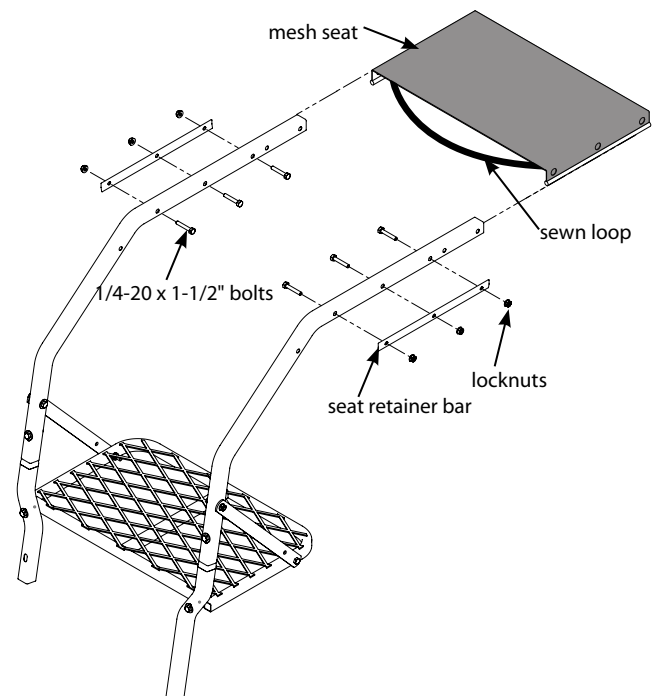
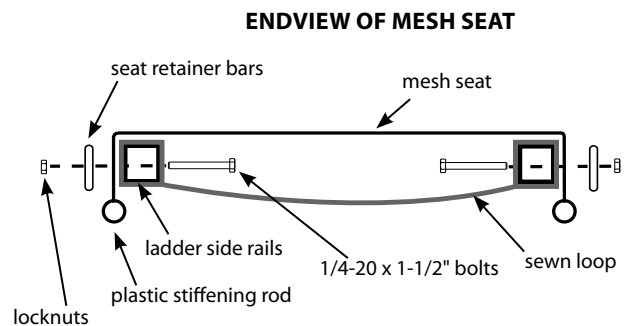

Figure 2
Figure 3
4. Slide the ladder side rails through the sewn loop of the seat (360003). Attach the seat and the (2) seat retainer bars (410072) to the ladder side rails using (6) provided 1/4-20 x 1-1/2" bolts and locknuts. **SEE FIGURE 2.** The plastic stiffening rod located in the sewn sleeve on each side of the seat MUST be positioned below the seat retainer bar to act as a seat stop and prevent the seat from pulling out during use. All bolts MUST go through the seat retainer bars, the holes provided in the seat and the ladder side rails. **SEE FIGURE 3.**